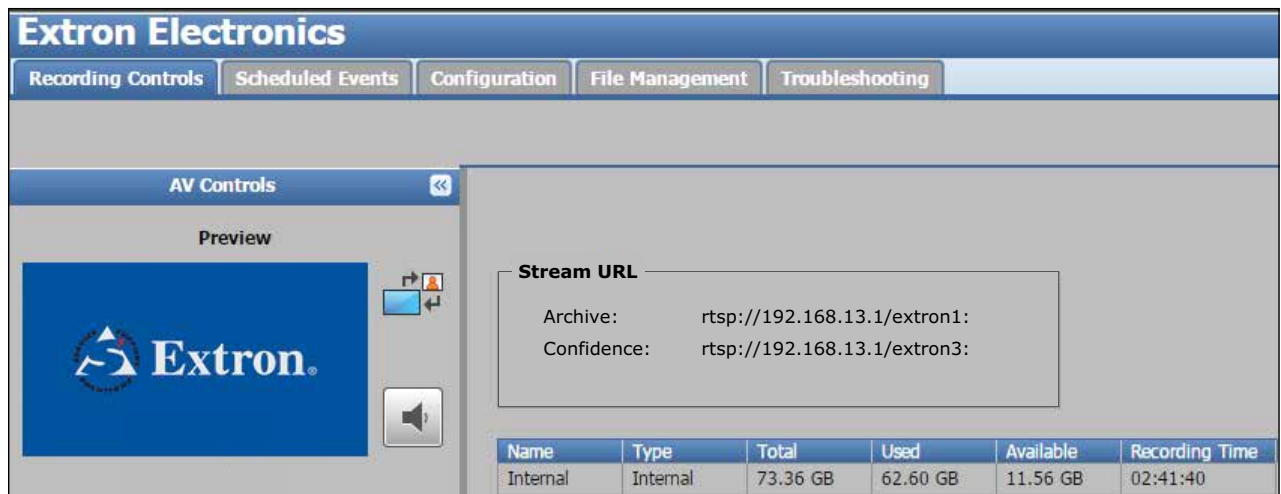

Figure 106. Recording Controls Page
2. The Recording Controls page opens (see figure 106).